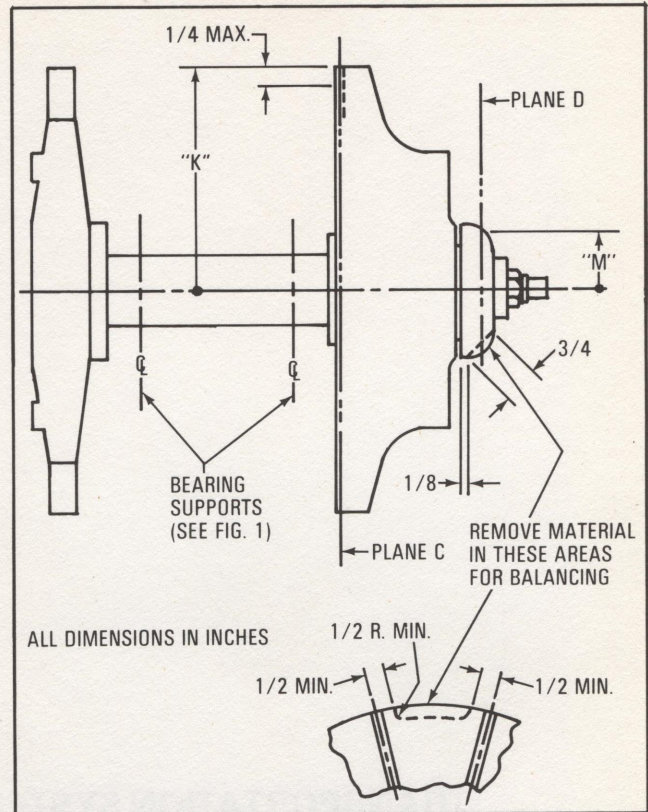

FIG. 3. ROTOR ASSEMBLY BALANCING INFORMATION.
- Support rotor assembly at bearing supports, Fig. 2, and run at 1100 rpm minimum. Dynamic balance to 0.02 in.-oz. in Planes C and D by removing material from the two areas shown, Fig. 3. Make corrections in Plane C first.